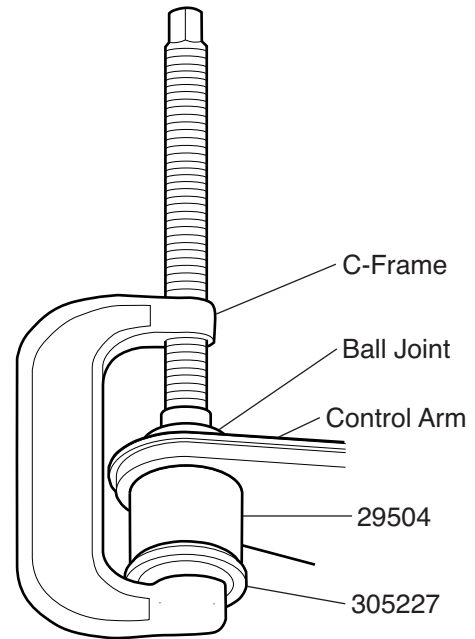

Figure 1. Ball Joint Removal
2. Position 29504, 305227 (or 39976 alone) and the C-Frame on the ball joint as shown in Figure 1.